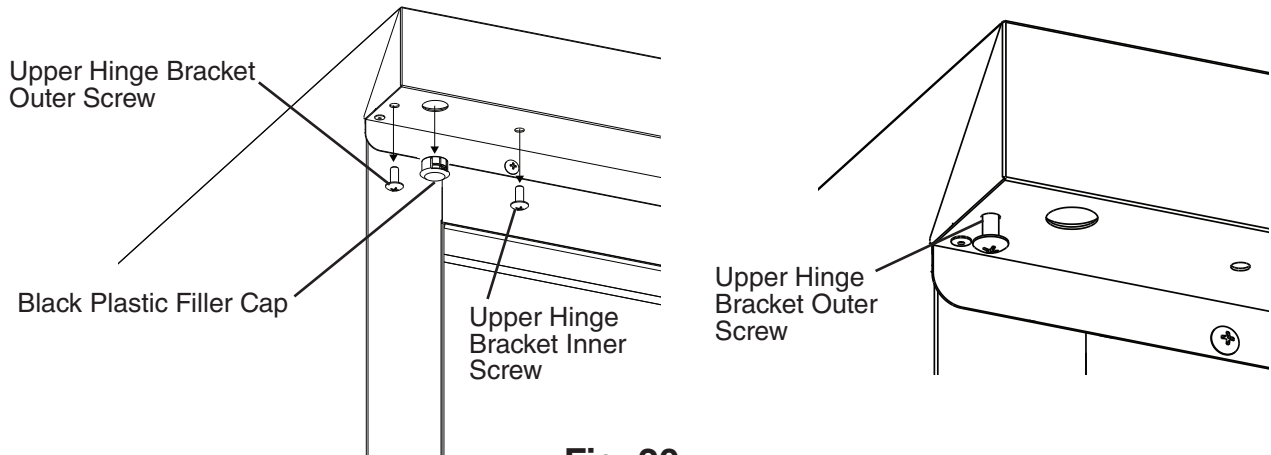

Fig. 20
- 13) Remove the upper hinge bracket screws from the new location and apply Loctite Threadlocker Blue 242 or 243 to the threads. Next, start the upper hinge bracket outer screw into the appliance. Rotate a few threads into the appliance; do not tighten the screw. See Fig. 20.